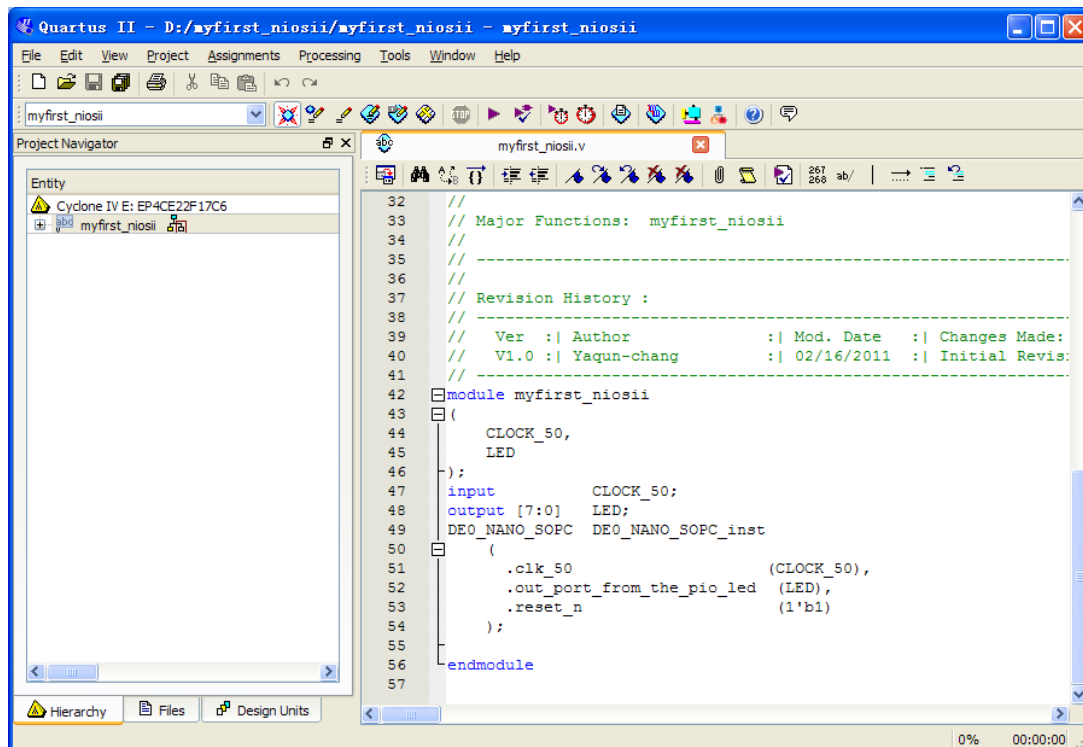

Figure 7-43 Input verilog Text
34. Type the following Verilog into the blank file, as shown in Figure 7-43. The module **DE0_NANO_SOPC** is the system created by SOPC Builder and its Verilog can be found in the **DE0_NANO_SOPC.v** file, as shown in